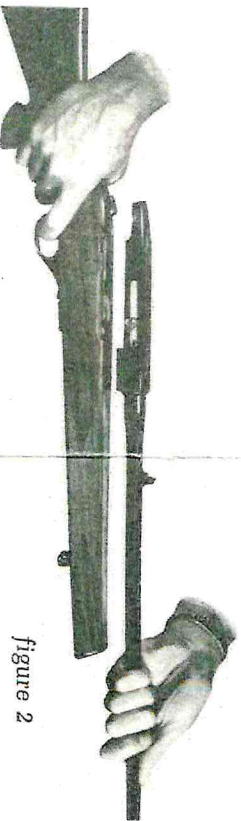

figure 2
BE SURE RIFLE IS UNLOADED! Remove takedown pin (B) at rear of receiver by pushing from right to left. With one hand, press forward on receiver, at the same time carefully lift barrel with the other hand. (Fig. 2) The barrel and receiver assembly will lift out of the stock. The underside of the bolt and receiver recess may be cleaned as well as the hammer and selector assemblies. **NO FURTHER DISASSEMBLY IS NECESSARY OR RECOMMENDED.** Disassembly of the hammer, trigger and selector assemblies should only be performed by a competent gunsmith or our factory.